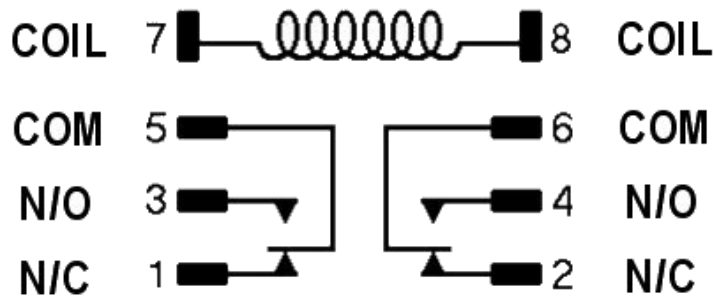

Figure 4-3: Relay Contact Arrangement for 2 or 3 Relays
**2 or 3 RELAYS:** When 2 or 3 relays are included with the monitor, “Ice Cube” DPDT relays are used. Two of the relays are set for different alarm conditions and the third relay is an optional Fault relay. The contacts are rated for 10Amps@250VAC resistive. For relay contact arrangement, see Figure 4-3.
The default relay programming configuration that is shipped is de-energized in the non-alarm state. See section 5.1.2 ALARM RELAY PROGRAMMING. The Figure 4-3 drawing above shows the schematic for the de-energized relay state. Note that N/O or normally open define the contact state for a specific relay pin or pins when the coil is not energized. N/C or normally closed also define the contact state for a specific relay pin or pins when the relay coil is not energized.